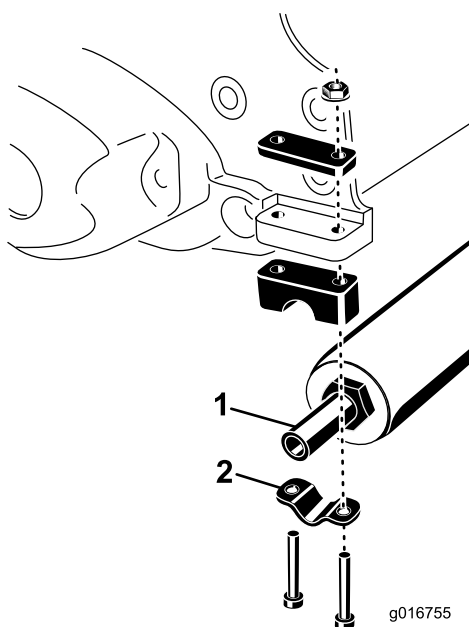

Figure 1
2. Remove the (2) capscrews and nuts securing the roller clamps to each end of the cutting unit (Figure 1). Remove the roller.